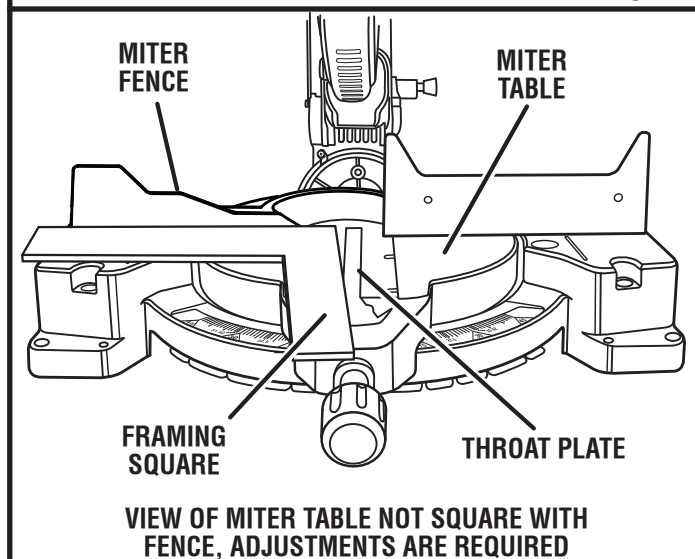

Fig. 14
- If the edge of the framing square and the throat plate in the miter table are not parallel as shown in figures 14 and 15, adjustments are needed.